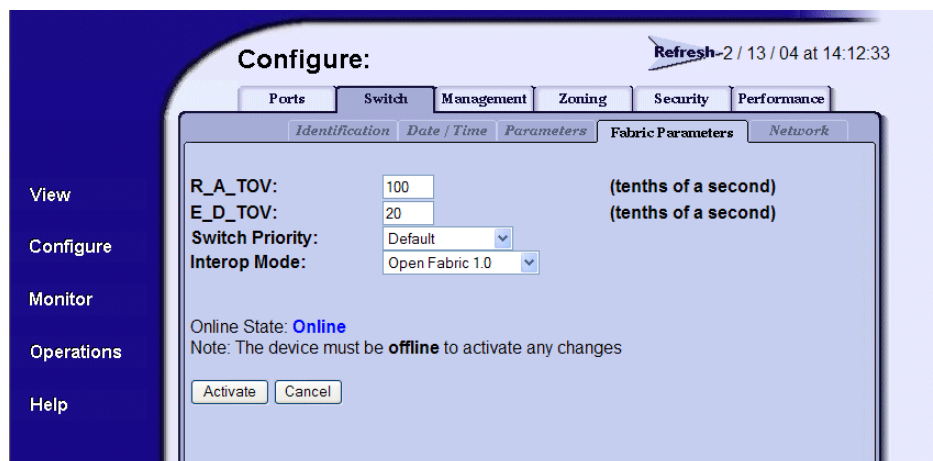

Figure 8: Fabric Parameters tab view
3. Click the **Switch** or **Director** tab (as appropriate), then click the **Fabric Parameters** tab. The **Fabric Parameters** tab view displays (Figure 8).